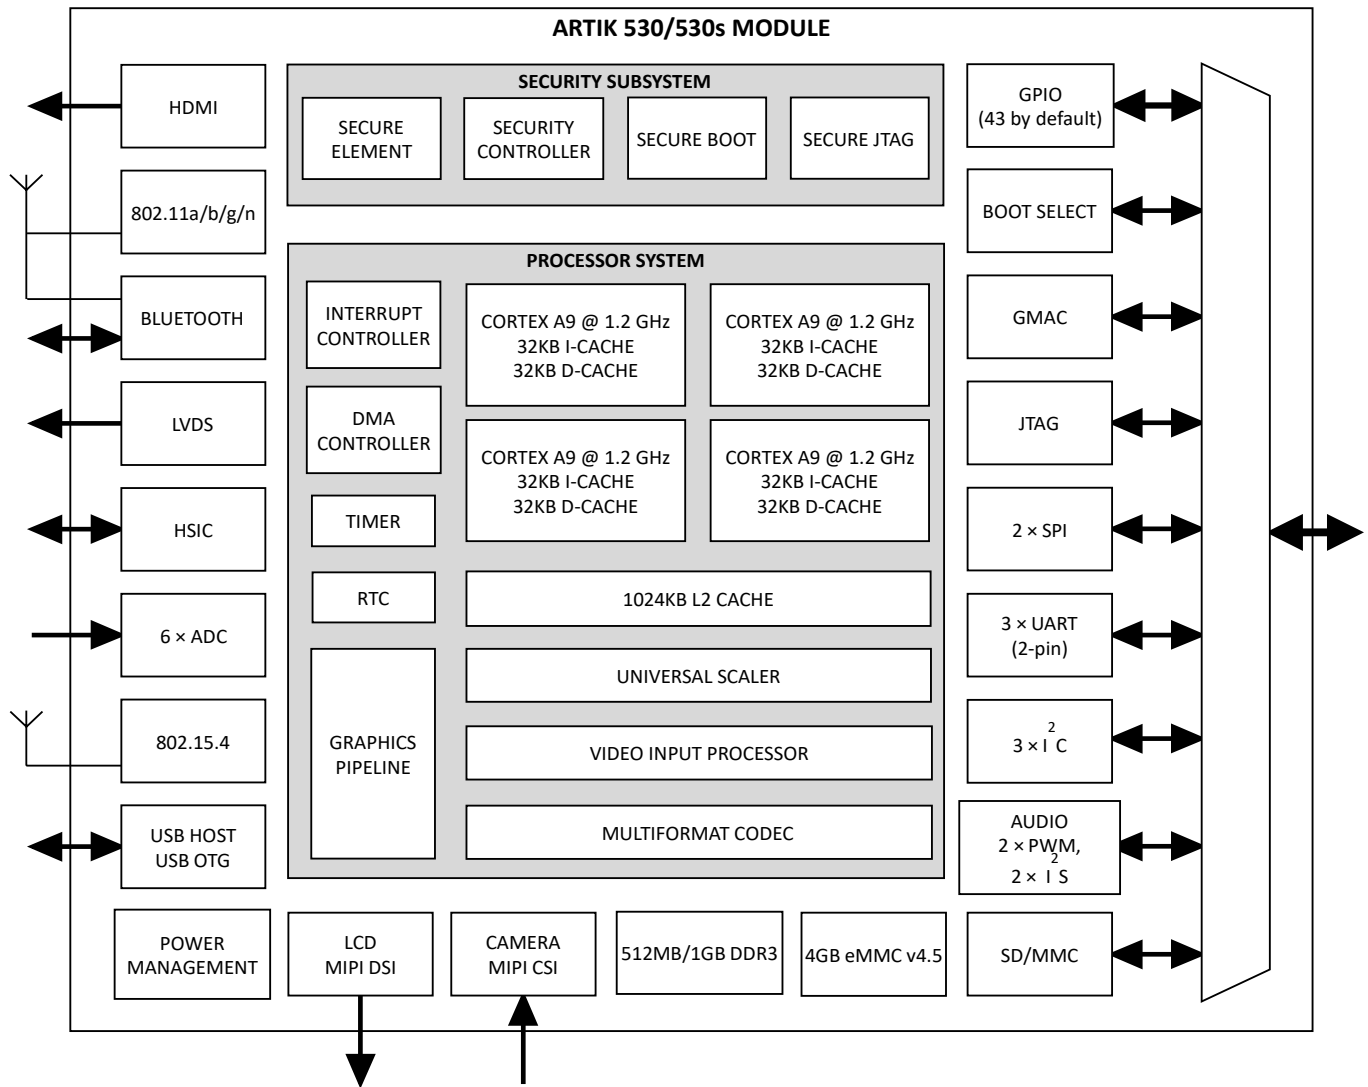

Figure 2. ARTIK 530/530s Module Functional Block Diagram
*Figure 2* shows the functional block diagram of the ARTIK 530/530s Module. It consists of a quad-core ARM® Cortex®-A9 application processor with 512MB or 1GB of DDR3 and 4GB eMMC Flash, PMIC power management, Security Subsystem, 802.11 for Wi-Fi®, Bluetooth®, 802.15.4 for Zigbee, and RF connectors.
The following subsections describe the functions of the various ARTIK 530/530s Module blocks depicted in Figure 2.
The ARTIK 530/530s Module provides a GPIO system with up to 107 GPIOs multiplexed with other I/O interface lines, as shown in Figure 2 to support a wide variety of use-cases. The key features of the GPIO system are as follows: